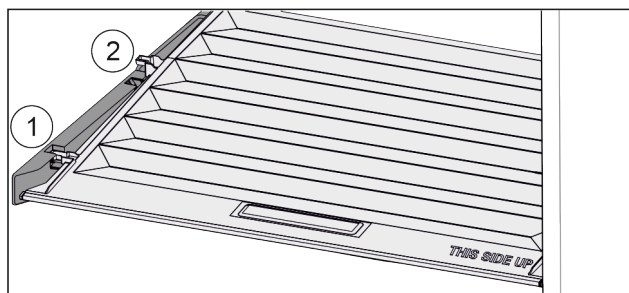

Fig. 36
- Pull the lid up at the front to the opening in the retaining parts Fig. 36 (1).
- Lift from the back and pull it up and out Fig. 36 (2).